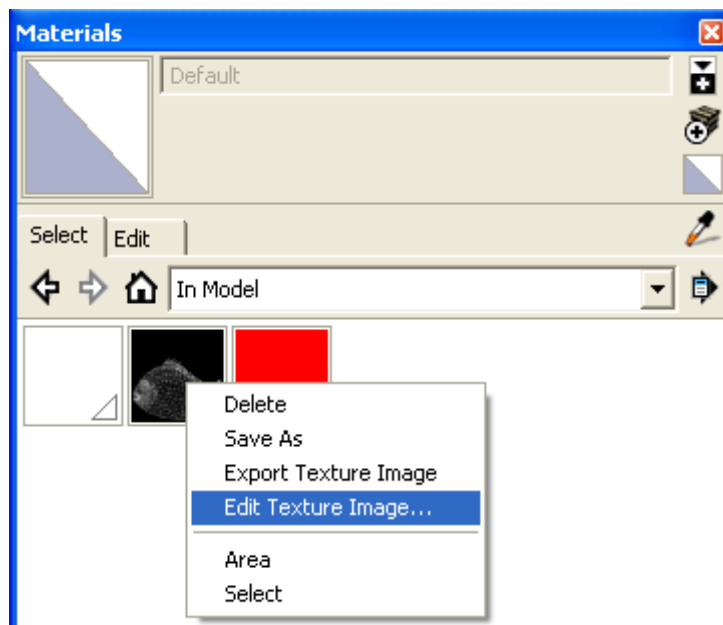
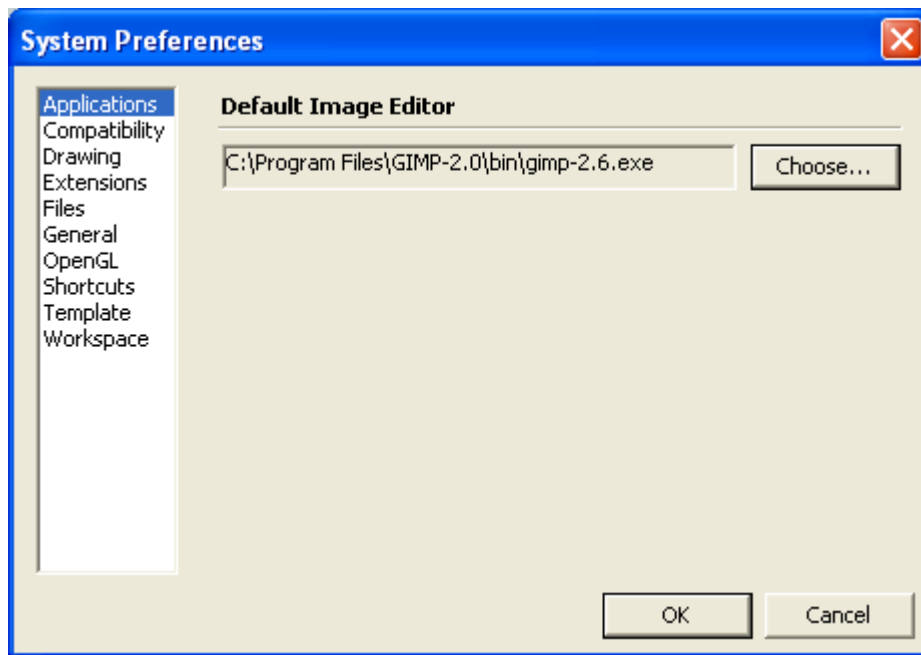

Figure 16: Editing texture image in SketchUp
Figure 17: The SketchUp preferences window for setting the default image editor
3. Use the “Edit Texture” command as shown in Figure 16 to load and edit the texture image in your image editor. The default image editor can be set in the SketchUp's “*System Preferences*” dialog (can be accessed via Window > Preferences menu item) as shown in Figure 17 (Note: we recommend you to use layer based image editors).